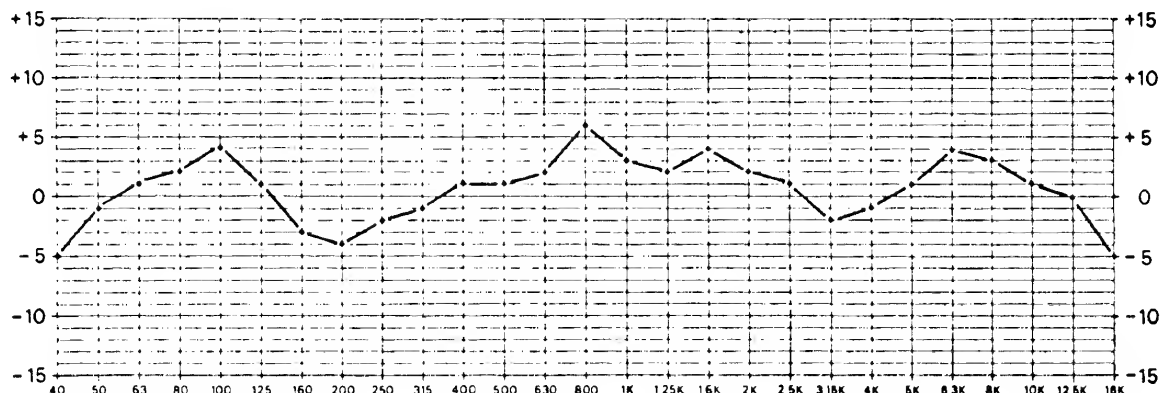

Figure 4-4 TYPICAL RAW HOUSE CURVE
4.4 ADJUSTMENT OF EQUALIZERS. Room equalization is performed as a series of approximations of control settings. Looking at the sample raw house curve in Figure 4.4 we can infer that if an inverse electrical response curve were placed in the audio chain that the result would be flat frequency response.